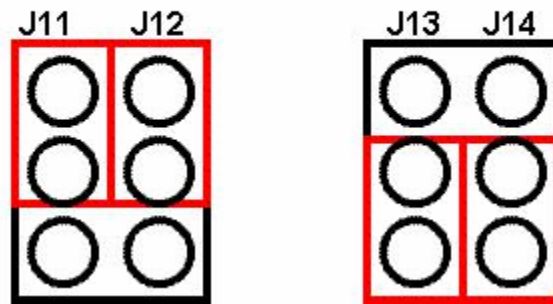

Figure 6: Orientation of J11/J12, J13/J14 header installation for 156.25MHz XAUI reference clock.
- Change headers for 156.25MHz XAUI reference clock (Figure 6)